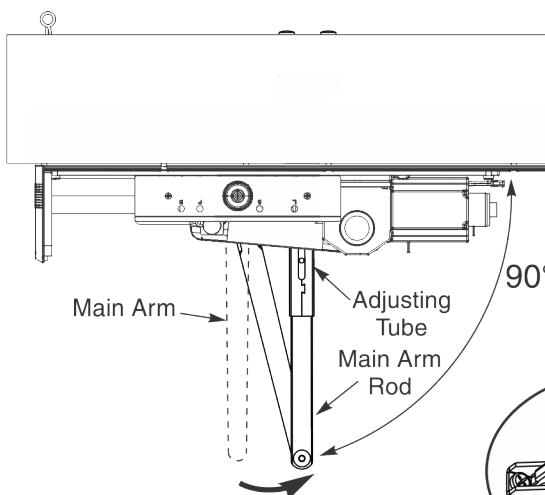

Figure 23 View from ceiling looking downward
5. With door closed, rotate main arm away from hinge until adjusting tube is perpendicular (90 degrees) with door. (Figure 23)